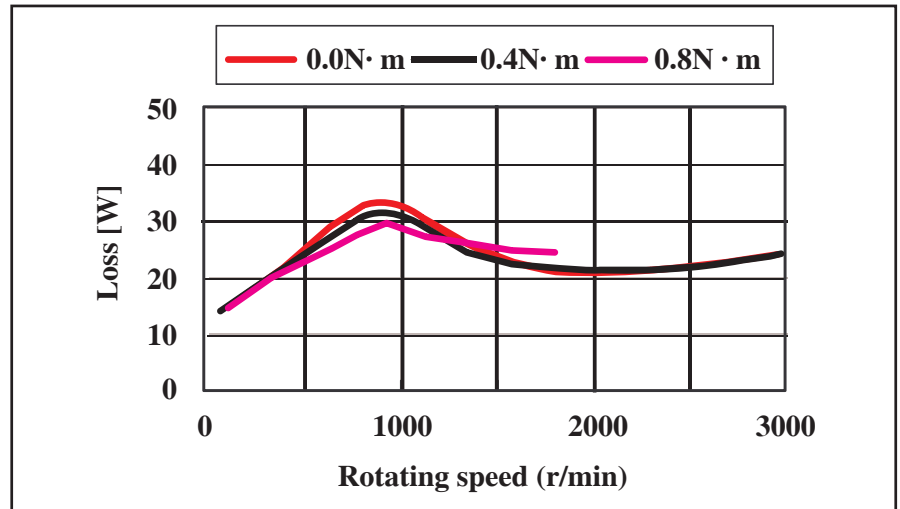

Figure 15—Loss characteristic of low-loss stepping motor.
**Loss characteristic.** Figure 15 shows the relationship of the load and the rotating speed. For the stepping motor in Figure 15, the peak value of the motor loss decreases when the load increases; but the change by the load is small, and the change by the rotating speed is larger.